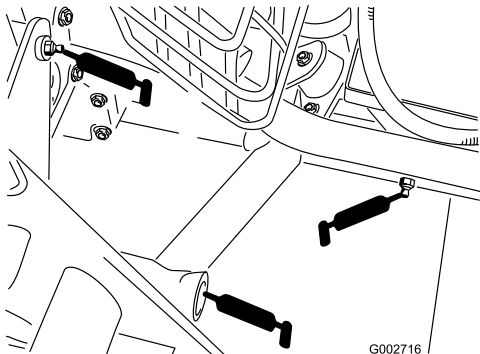

Figure 25
- Attelage arrière (5) (Figure 25)